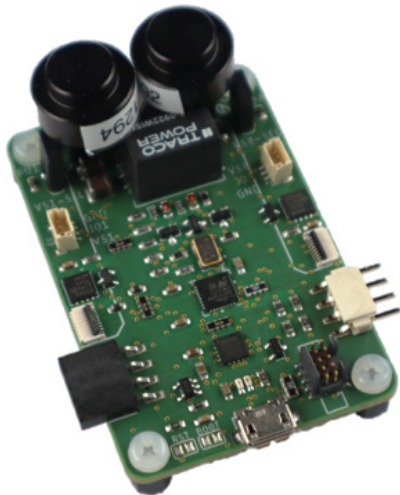

Figure 1: USSM Demo Kit
2. Connect the Sensors to the Demo board as in Figure 1.